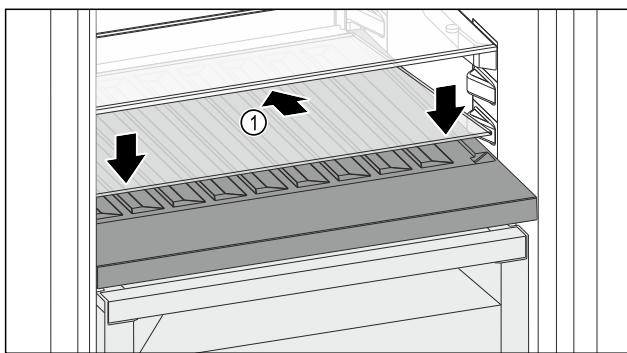

Fig. 110
- ▶ Place the glass shelf Fig. 110 (1) at an angle, sloping it downwards and backwards.
- ▶ Lower the glass shelf Fig. 110 (1) at the front.